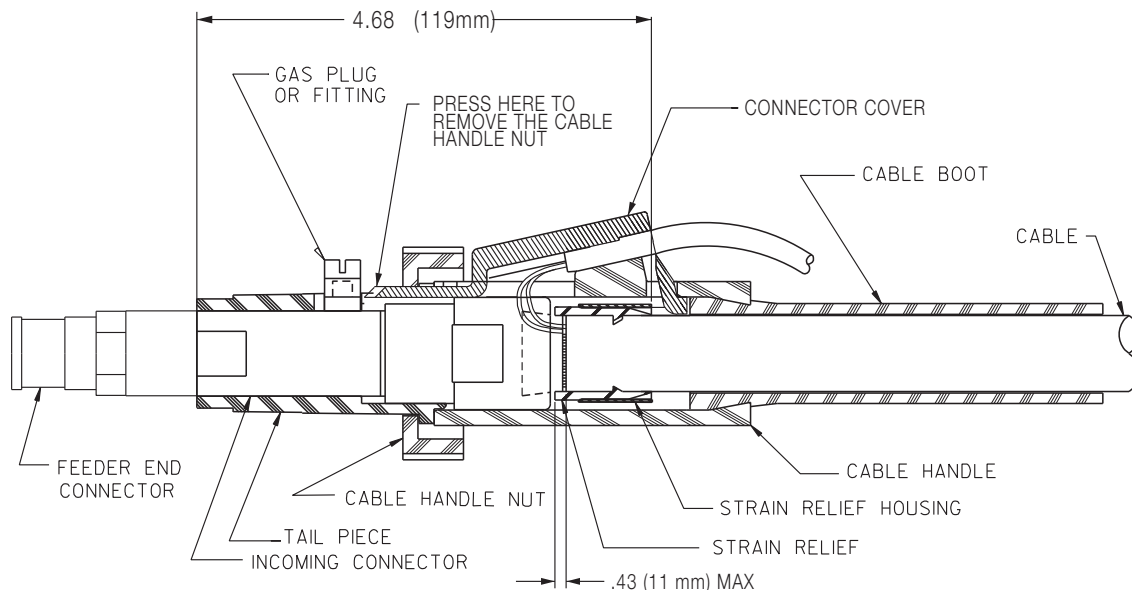

Figure E.6
- b) Remove the feeder end connector, molded gas plug (or barbed fitting), cable handle nut, plastic tailpiece, and connector cover (See Figure E.6).
Position the plastic strain relief such that the tapered end is 4.68 (119 mm) from the incoming connector (See Figure E.6). Lock into place with steel housing. Plastic strain relief may overhang cable jacket a maximum of .43" (11 mm).
E.8. Position the plastic strain relief such that the tapered end is 4.68 (119 mm) from the incoming connector (See Figure E.6). Lock into place with steel housing. Plastic strain relief may overhang cable jacket a maximum of .43" (11 mm).
- h) Position cable boot and cable handle on cable. Move the connector cover into position while pulling control cables to take up the slack. Install tailpiece and fasten to cable handle with cable handle nut. (Refer to Figure E.6).